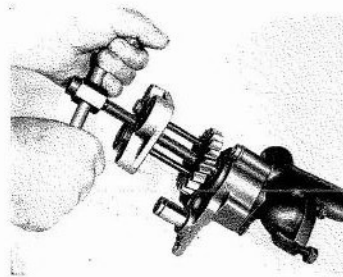

Fig. P.4.
1. With the pump assembly suitably held in a vice, remove the pump drive gear by using Tool No. P.D.155. See Fig. P.4.